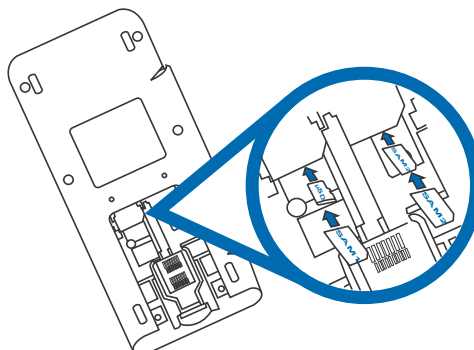

Figure 2 MSAM/uSD Slots
- 3 Remove cable cover as shown in Figure 2.